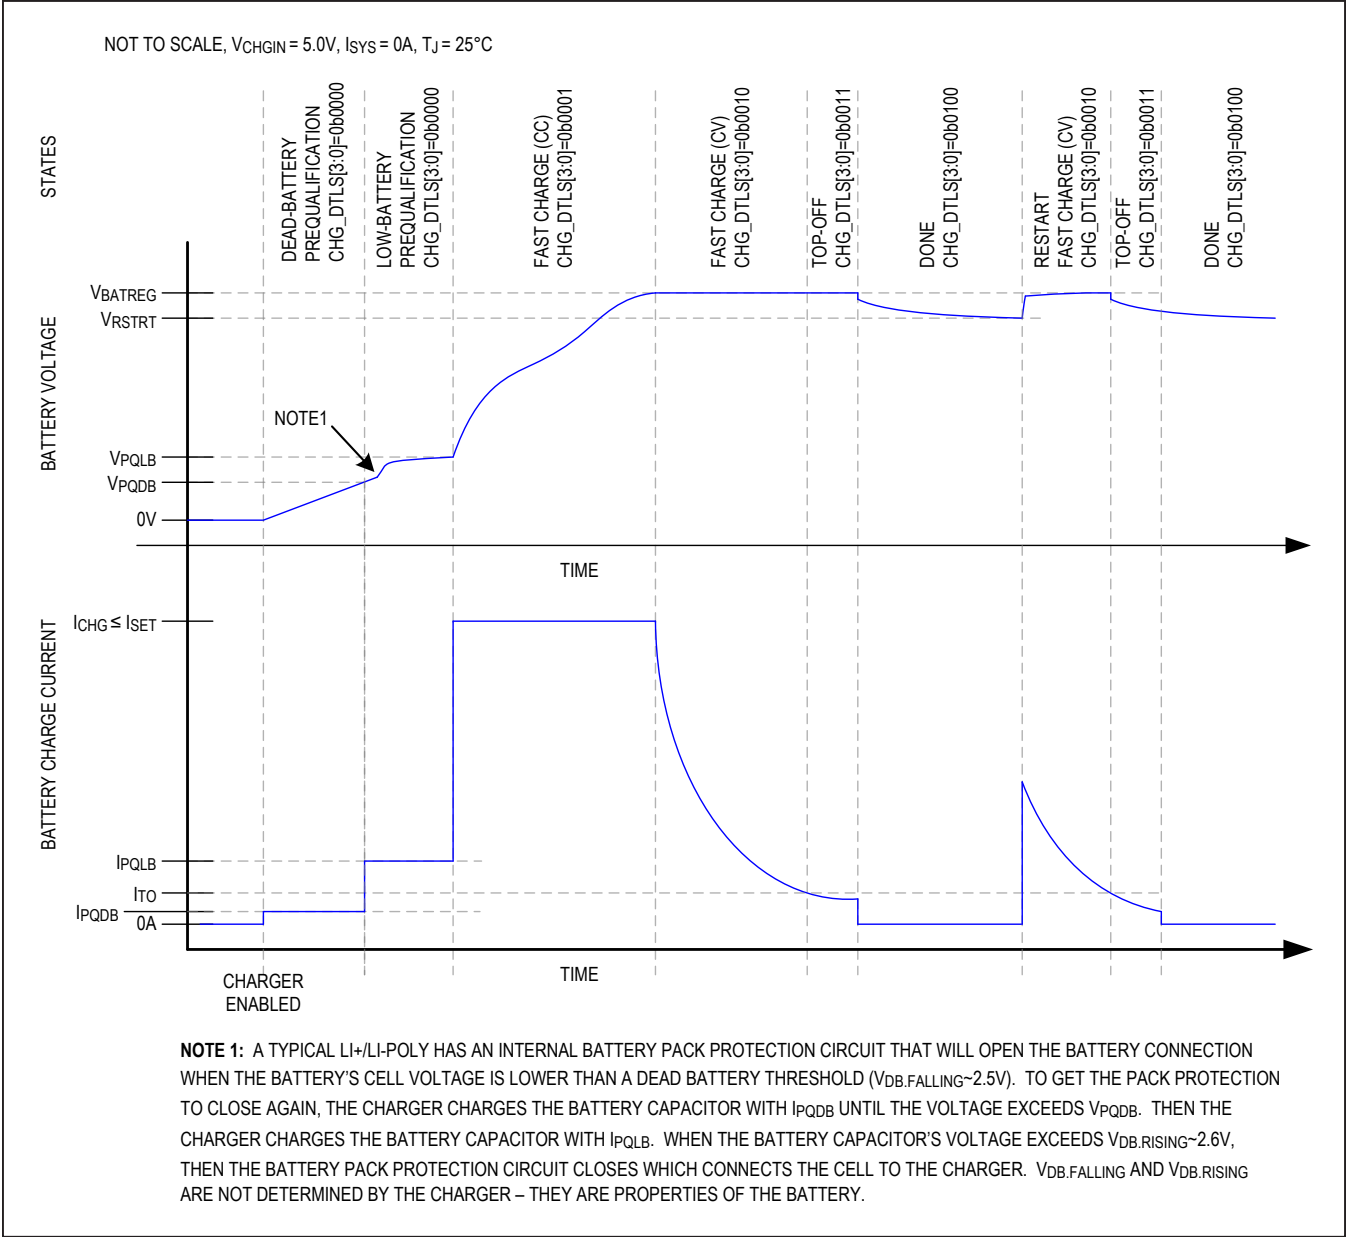
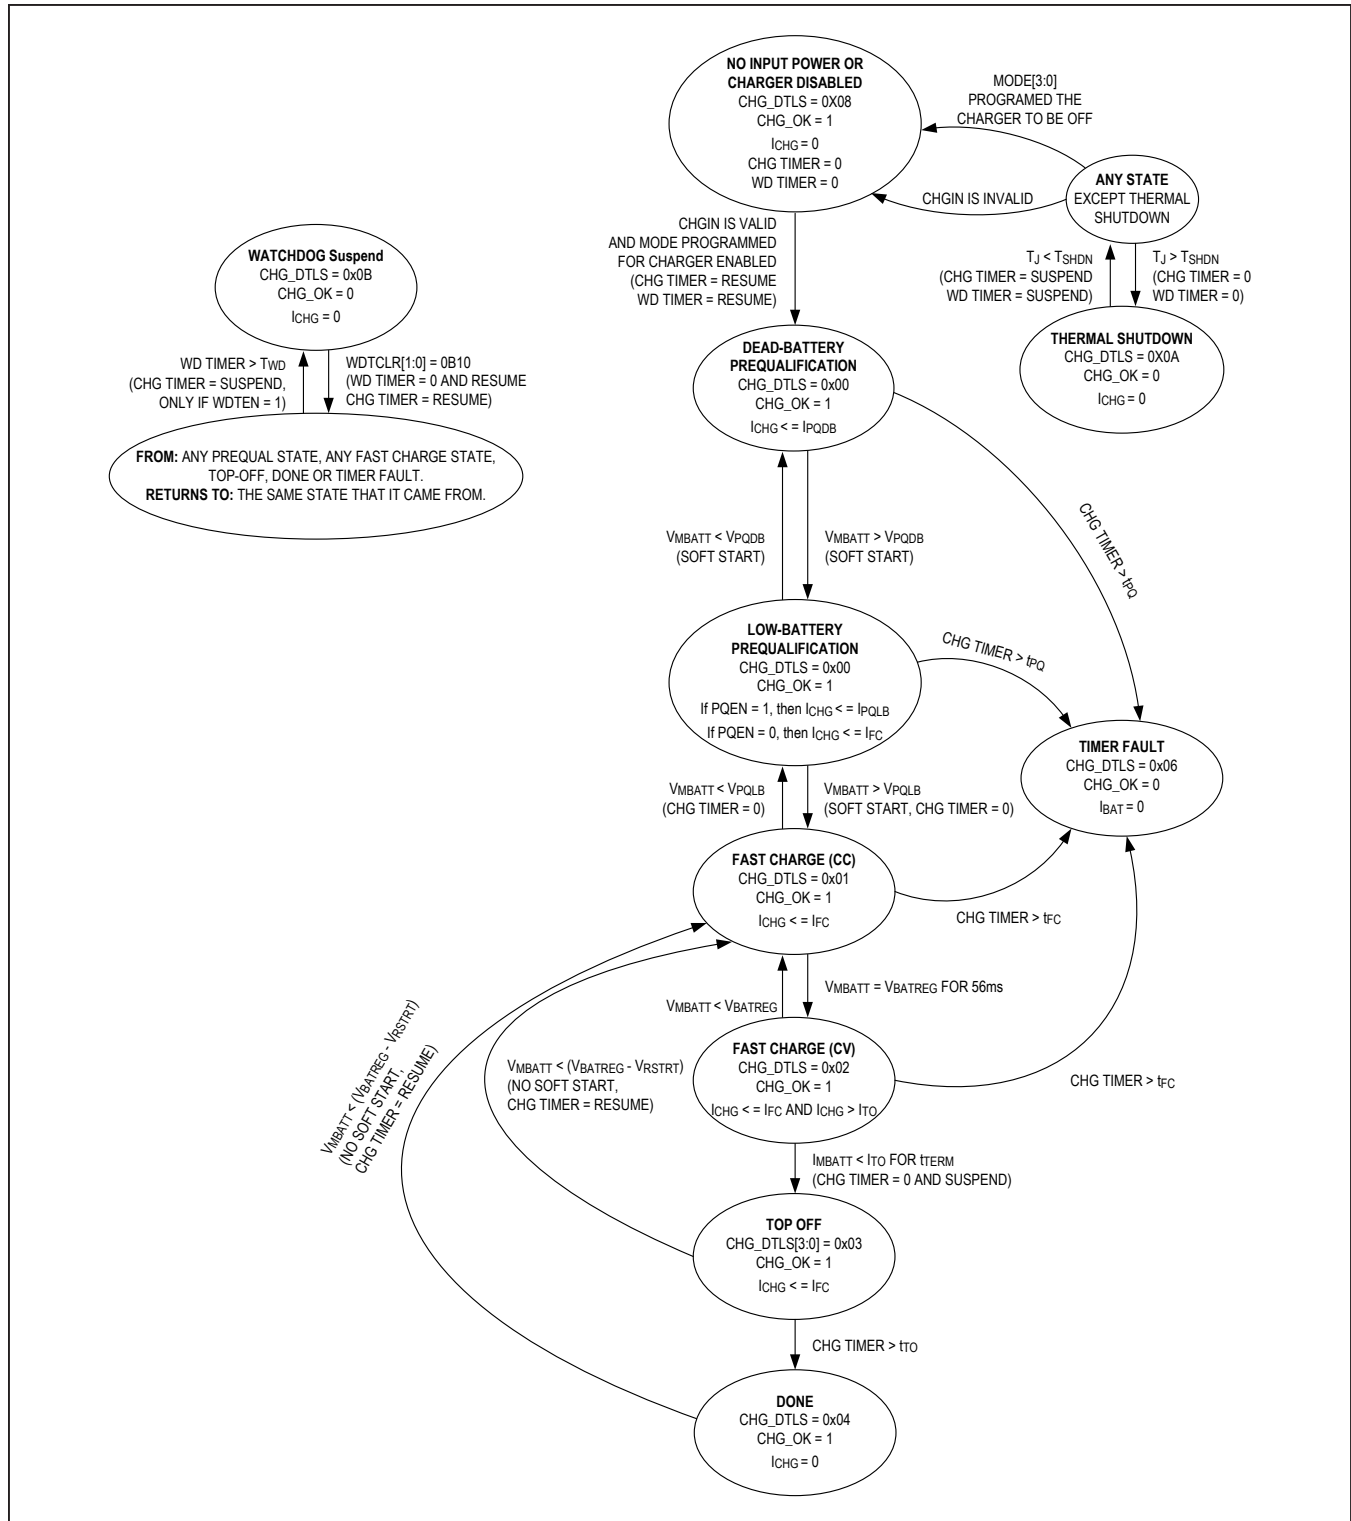

Figure 6. Li+/Li-Poly Charge Profile
Figure 7. Charger State Diagram
The MAX77818 utilizes several charging states to safely and quickly charge batteries as shown in Figure 6 and Figure 7. Figure 6 shows an exaggerated view of a Li+/Li-Poly battery progressing through the following charge states when there is not system load and the die and battery are close to room temperature: prequalification → fast-charge → top-off → done.
From any state shown in Figure 7 except thermal shut-down, the no input power or charger disabled state is entered whenever the charger is programmed to be off or the charger input CHGIN is invalid. After being in this state for  $t_{SCIDG}$ , a CHG\_I interrupt is generated, CHG\_OK is set and CHG\_DTLS is set to 0x08.
As shown in Figure 7, the dead battery prequalification state occurs when the main battery voltage is less than  $V_{PQDB}$ . After being in this state for  $t_{SCIDG}$ , a CHG\_I interrupt is generated, CHG\_OK is set and CHG\_DTLS is set to 0x00. In the dead battery prequalification state charge current into the battery is  $I_{PQDB}$ .
As shown in Figure 7, the fast-charge constant current (CC) state occurs when the main battery voltage is greater than the low battery prequalification threshold and less than the battery regulation threshold ( $V_{PQLB} < V_{BATT} < V_{BATREG}$ ). After being in the fast-charge CC state for  $t_{SCIDG}$ , a CHG\_I interrupt is generated, CHG\_OK is set and CHG\_DTLS = 0x01.
As shown in Figure 7, the fast-charge constant voltage (CV) state occurs when the battery voltage rises to  $V_{BATREG}$  from the fast-charge CC state. After being in the fast-charge CV state for  $t_{SCIDG}$ , a CHG\_I interrupt is generated, CHG\_OK is set and CHG\_DTLS = 0x02.
In the fast-charge CV state the battery charger maintains  $V_{BATREG}$  across the battery and the charge current is less than or equal to  $I_{FC}$ . As shown in Figure 6, charger current decreases exponentially in this state as the battery becomes fully charged.
As shown in Figure 7, the top-off state can only be entered from the fast-charge CV state when the charger current decreases below  $I_{TO}$  for  $t_{TERM}$ . After being in the top-off state for  $t_{SCIDG}$ , a CHG\_I interrupt is generated, CHG\_OK is set and CHG\_DTLS = 0x03. In the top-off state the battery charger tries to maintain  $V_{BATREG}$  across the battery and typically the charge current is less than or equal to  $I_{TO}$ .
As shown in Figure 7, the battery charger enters its done state after the charger has been in the top-off state for  $t_{TO}$ . After being in this state for  $t_{SCIDG}$ , a CHG\_I interrupt is generated, CHG\_OK is cleared and CHG\_DTLS = 0x04.
The battery charger provides both a charge timer and a watchdog timer to ensure safe charging. As shown in Figure 7, the charge timer prevents the battery from charging indefinitely. The time that the charger is allowed to remain in its each of its prequalification states is  $t_{PQ}$ . The time that the charger is allowed to remain in the fast-charge CC and CV states is  $t_{FC}$  which is programmable with FCHGTIME. Finally, the time that the charger is in the top-off state is  $t_{TO}$ , which is programmable with TO\_TIME. Upon entering the timer fault state a CHG\_I interrupt is generated without a delay, CHG\_OK is cleared and CHG\_DTLS = 0x06.
In the timer fault state the charger is off. The charger can exit the timer fault state by programming the charger to be off and then programming it to be on again through the MODE bits. Alternatively, the charger input can be removed and reinserted to exit the timer fault state. See the any state bubble in the upper right of Figure 7.
The battery charger provides both a charge timer and a watchdog timer to ensure safe charging. As shown in Figure 7, the watchdog timer protects the battery from charging indefinitely in the event that the host hangs or otherwise cannot communicate correctly. The watchdog timer is disabled by default with WDTEN = 0. To use
As shown in Figure 7, the thermal shutdown state occurs when the battery charger is in any state and the junction temperature ( $T_J$ ) exceeds the device's thermal shutdown threshold ( $T_{SHDN}$ ). When  $T_J$  is close to  $T_{SHDN}$ , the charger has folded back the input current limit to 0A so the charger and inputs are effectively off. Upon entering this state, CHG\_I interrupt is generated without a delay, CHG\_OK is cleared, and CHG\_DTLS = 0x0A.